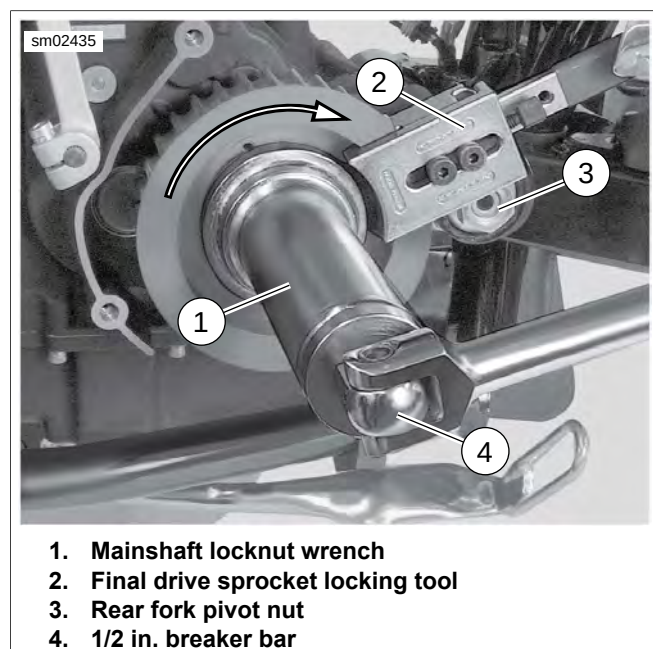

Figure 5-39. Sprocket Nut Installation (Typical)
- See Figure 5-39. Lock transmission sprocket with the FINAL DRIVE SPROCKET LOCKING TOOL (Part No. HD-46282A) (2). The locking tool must rest against the rear fork pivot (3).